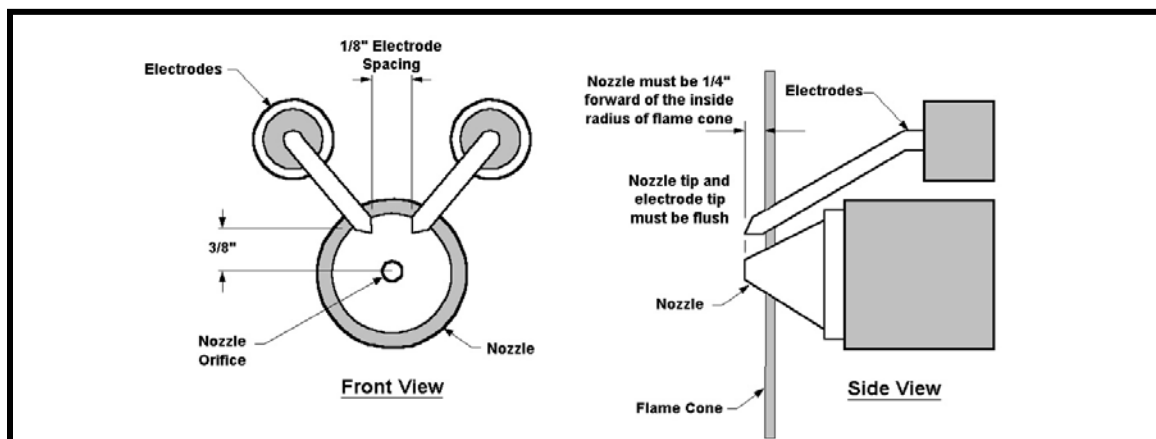

Figure 11 – Electrode Adjustment Detail
--- Inspect electrode adjustment. (figure 11). Due to erosion, adjustment may change.
Tip of nozzle must be $\frac{1}{4}$ " ahead of inside radius of end-cone. If nozzle is behind inside radius of end-cone, coking will occur and end cone can become clogged. (figure 11). **IMPORTANT NOTE:** be sure nozzle is centered, if nozzle is higher than center, press nozzle down to bottom out pre-heater stand.